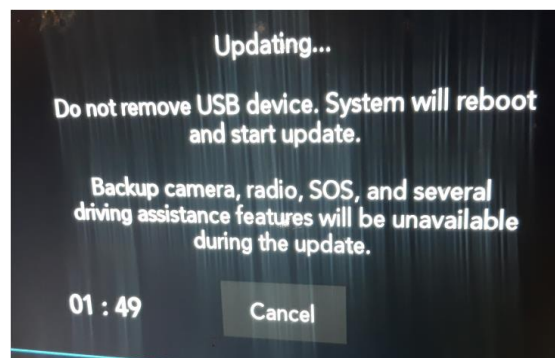

Figure 2
5. “Updating” screen will display (Figure 2).